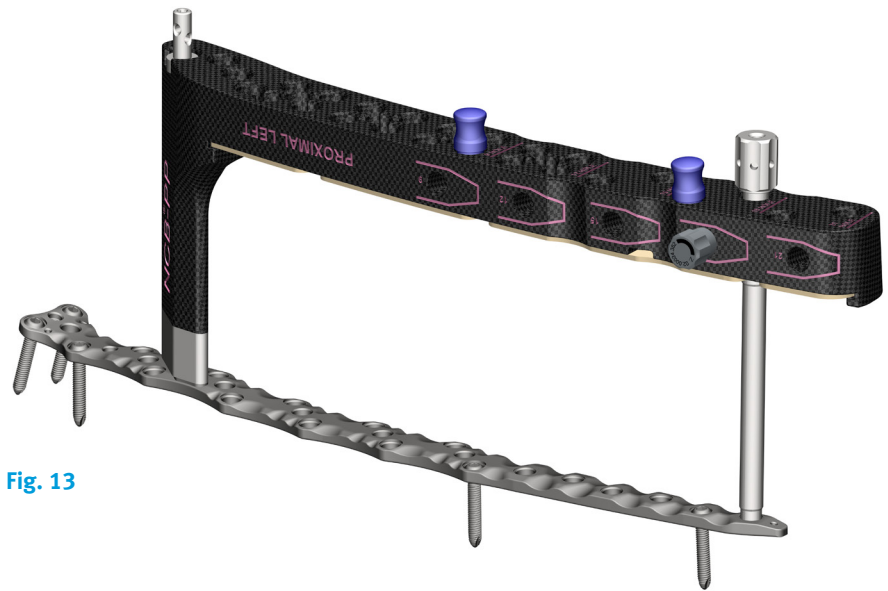

Fig. 13
8. Remove the Tissue Protection Sleeve and place a Screw Marker (02.00024.077) into the hole in the NCB Periprosthetic Targeting Device to indicate which plate holes contain screws (**Fig. 13**).